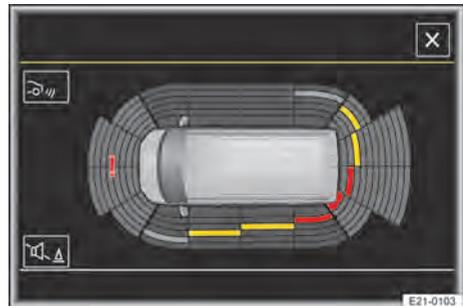

Fig. 118 In the Infotainment system: obstacle detection for Park Distance Control (illustration).
Park Distance Control warns about an obstacle by means of colour segments on the Infotainment system screen and acoustic signals → Fig. 118. The closer the vehicle drives towards an obstacle, the closer the segment will move towards the vehicle as shown on the display → ①.